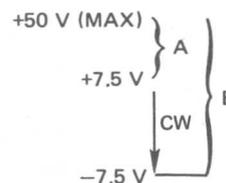

Figure 2-3. Range of Triggering Voltage
16. **TRIG LEVEL Control** – A continuously variable adjustment of the TRIG IN circuitry. When full ccw, approximately a positive going pulse of +7.5 V (A, Figure 2-3) or greater voltage is required for triggering. In the full cw position, a positive going pulse of approximately -7.5 V (B, Figure 2-3) or more positive voltage is required for triggering. In the GATED mode, the generator will begin to run continuously at some position of the control cw past 12 o'clock. When using the MAN TRIG, this control must be ccw of the midpoint.